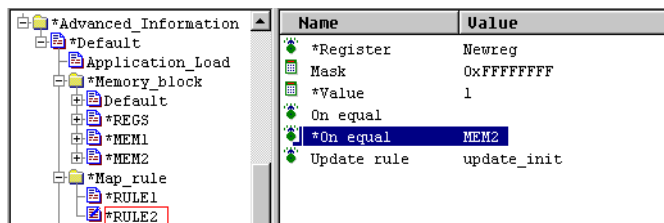

Figure 13-30 Settings for the second map rule
7. Set the value of *On_equal to MEM2, shown in Figure 13-30.